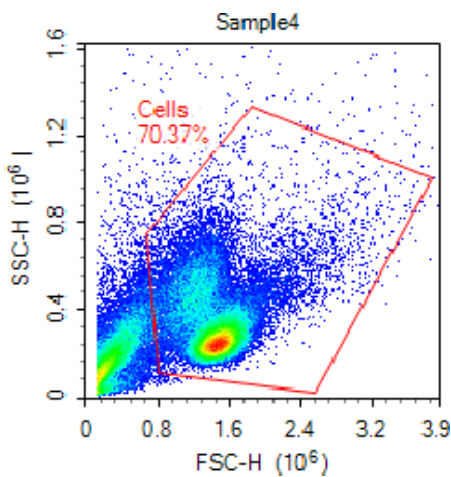

Figure 5. Gating strategy 1: forward and side scatter density plots.
4. Gate the T cells based on forward and side scatter properties. As shown in Figure 5, the red gate is placed around the T cell population. Debris is usually collected at the left corner of the density plot with lowest level of side and forward scatter.